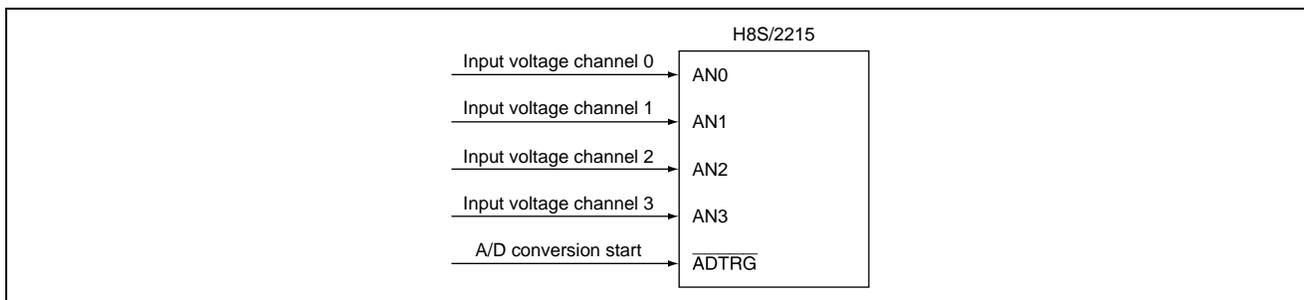

Figure 1 Block Diagram of Voltage Measurement by H8S/2215
1. As shown in figure 1, this sample task inputs voltages of four channels to the H8S/2215 and stores A/D conversion results in RAM.